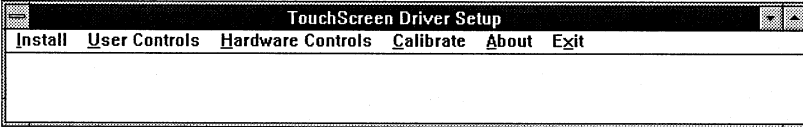

fig. A-11
2. Choose **User Controls** from the TouchScreen Driver Setup menu (fig. A-11).